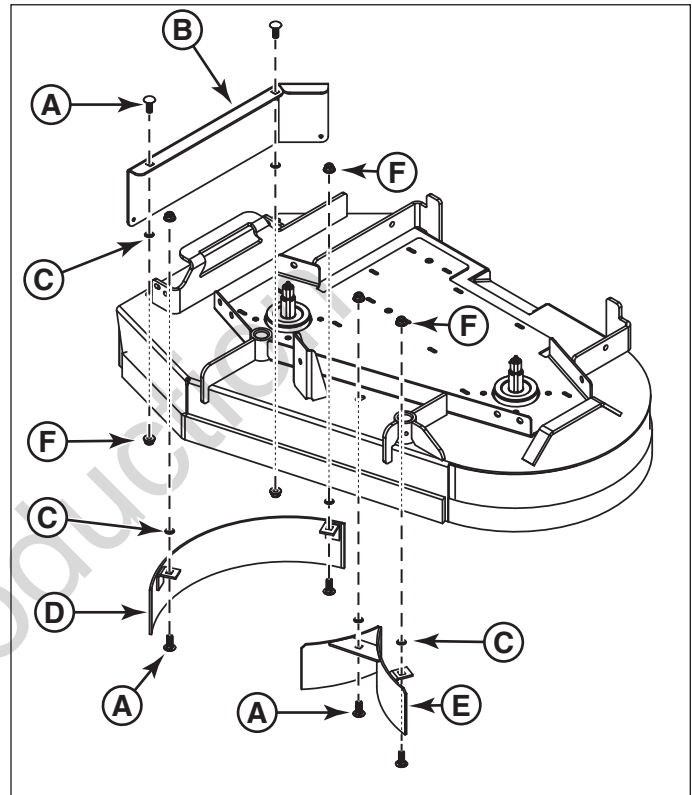

Figure 1. Install the Block-off Plate
4. Install two (2) carriage bolts (**A**, **Figure 1**) down through the block off plate (**B**) and secure with push nuts (**C**).
5. Install two (2) carriage bolts up through the right side mulch ring (**D**) and secure with push nuts.
6. Install two (2) carriage bolts up through the center mulch ring (**E**) and secure with push nuts.
7. Lift the discharge chute up and out of the way and install the block-off plate over the discharge opening and secure with two (2) 3/8" nylock flange nuts (**F**).
8. Install the center mulch ring as shown in **Figure 1** up through the mower deck and secure with two (2) 3/8" nylock flange nuts.
9. Install right side mulch ring as shown in **Figure 1** up through the mower deck and secure with two (2) 3/8" nylock flange nuts.